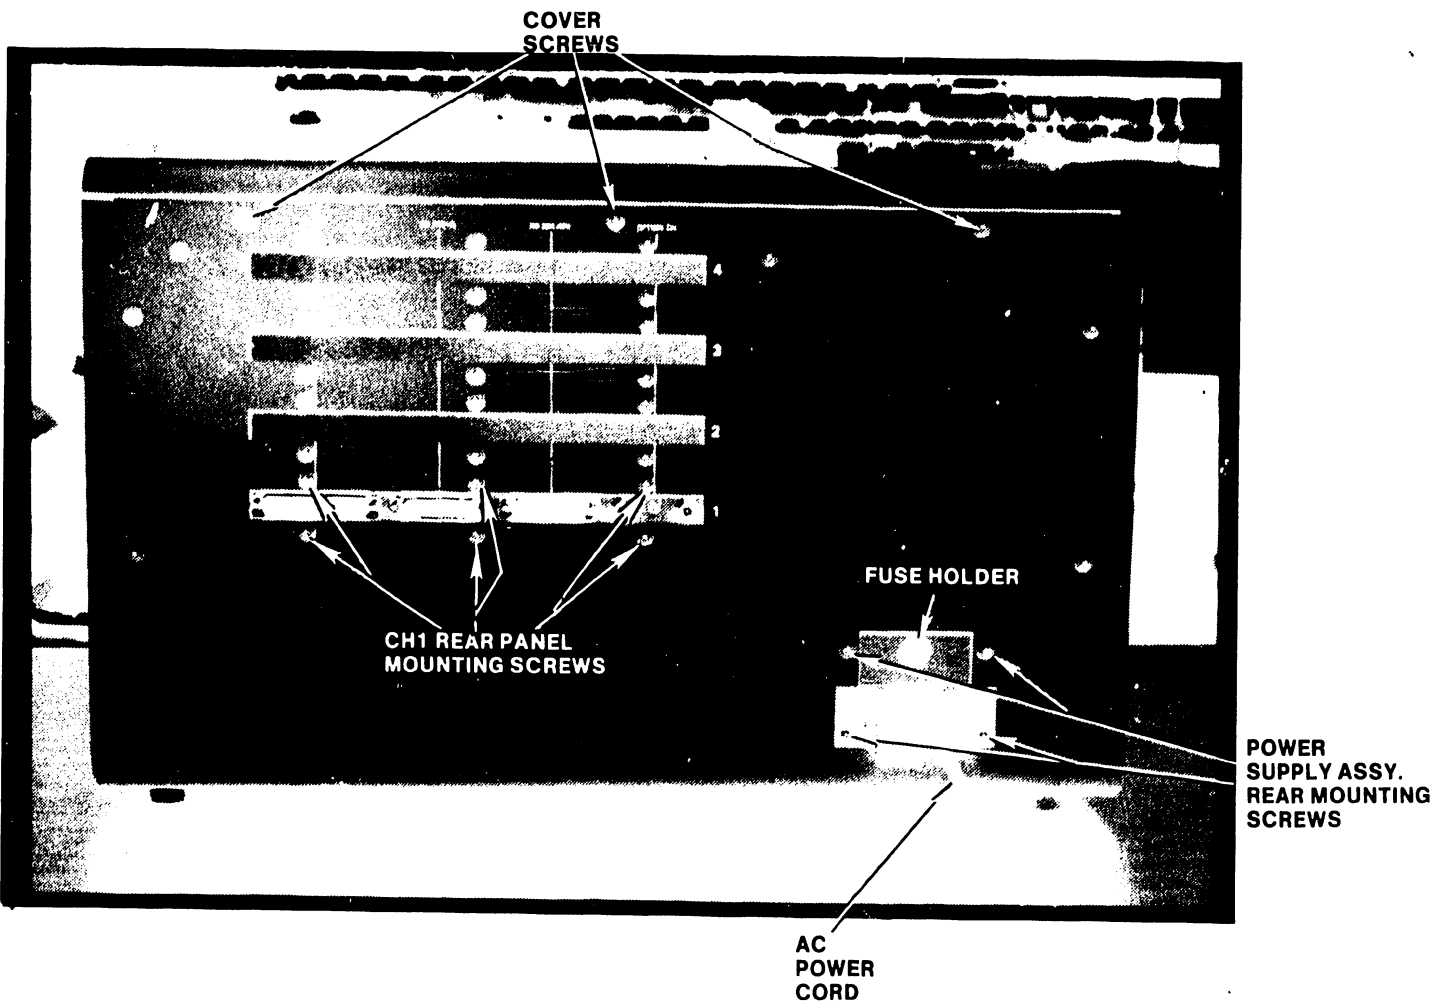
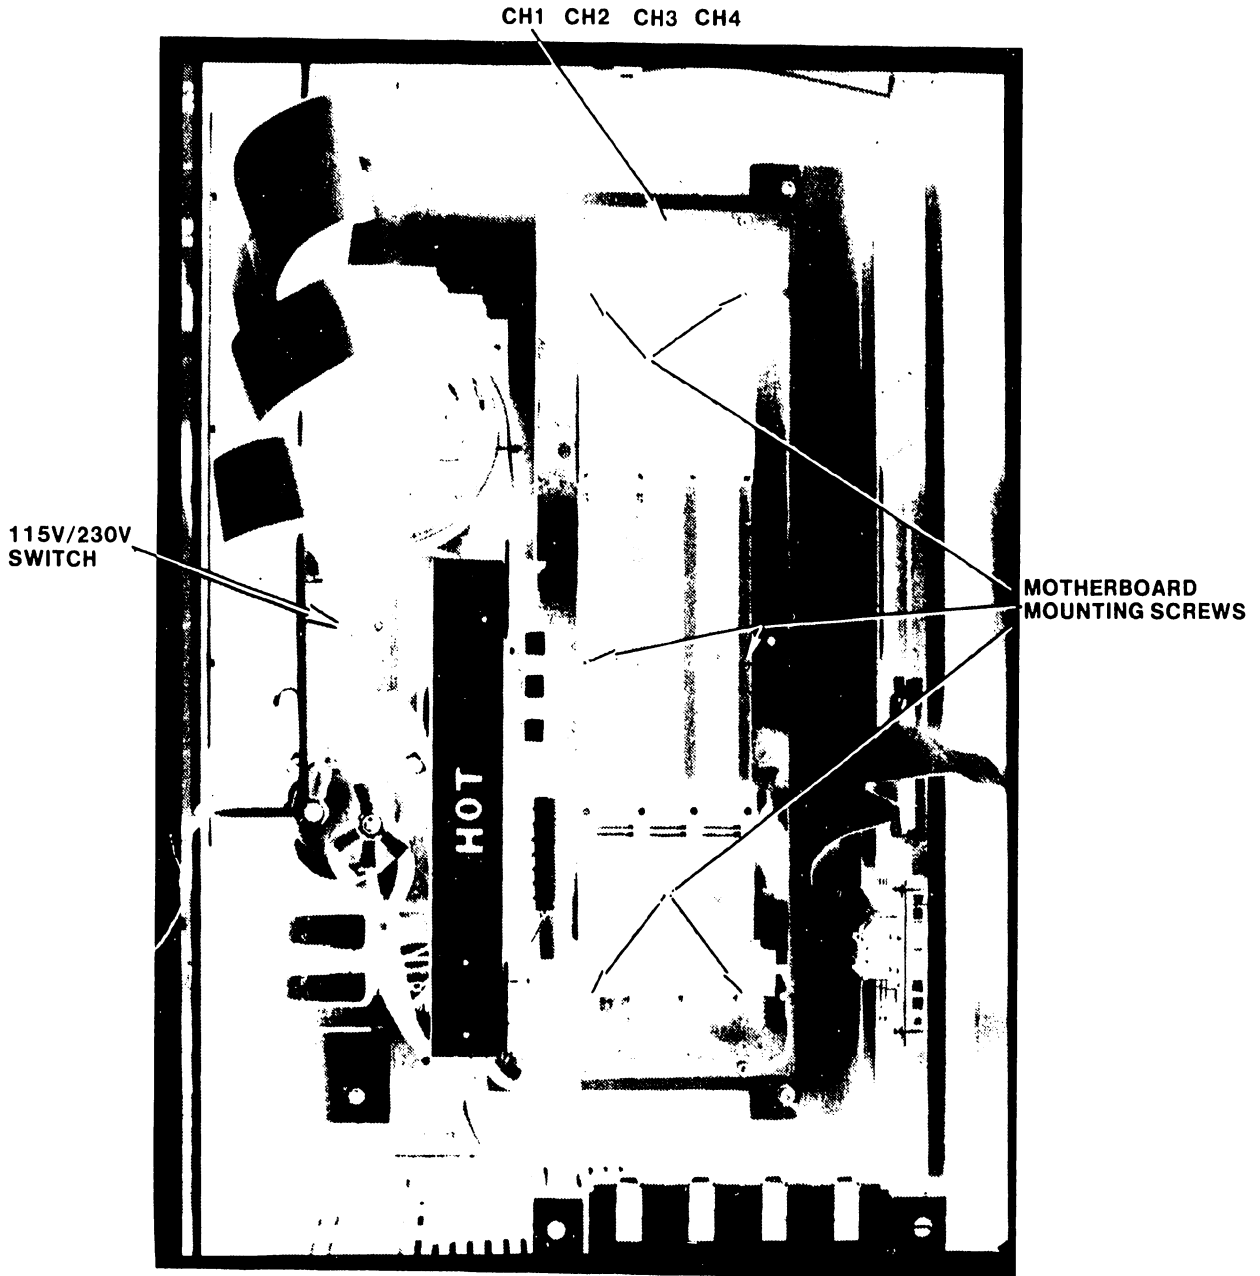

FIGURE 3-1 TCP (REAR VIEW)
FIGURE 3-4 TCP (TOP INSIDE VIEW)
- a. Remove the three cover screws at the rear of the unit (see figure 3-1). These screws secure the top cover to the main chassis.
- b. Install the TC-B1 into CH #1 I/O slot (see figure 3-4). The board connectors on the motherboard have card guides to ease insertion.
RS cable length corresponds to the Channel in which the TC-B1 is mounted. For example, figure 3-1 shows the Rear Panel located in CH #1. The cable length for this Rear Panel is exactly the right length to reach the TC-B1 mounted in CH #1 I/O slot (see figure 3-4 for the location of CH #1 I/O slot).
- g. Set the 115V/230V Switch (see figure 3-4) to 115V for domestic use or 230V for international use.
- a. Remove the four power supply assembly mounting screws from the rear of the unit (see figure 3-1).
- b. Disconnect ac power cord from rear of unit (see figure 3-1).
- a. Remove the six machine screws (see figure 3-4) which secure the Motherboard to the main chassis. The motherboard mounting screws are easily identified because each one has a washer.
- c. Unscrew the six Phillips-head screws that secure the CH #1 Rear Panel to the rear of the unit (see figure 3-1).
- a. Turn Fuse Holder (see figure 3-1) counter-clockwise.
- d. Replace fuse and holder and turn clockwise (see figure 3-1).